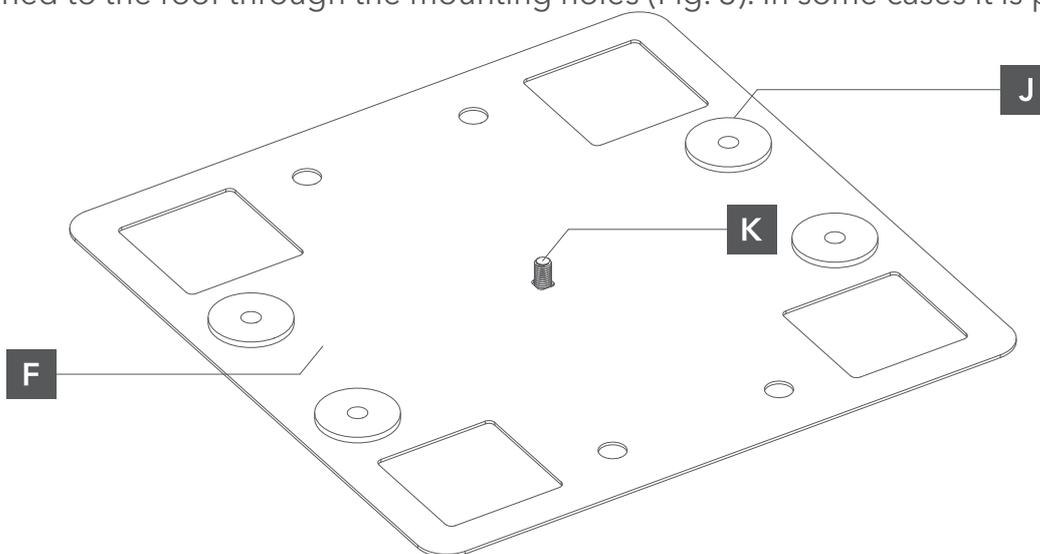

Fig. 3: Fasteners on a membrane-covered roof.
- 2 Place the screws in the fasteners and fix the plate in the designated place on the diaphragm. The hooks should be attached to the through the fastened to the roof through the mounting holes (Fig. 3). In some cases it is possible to